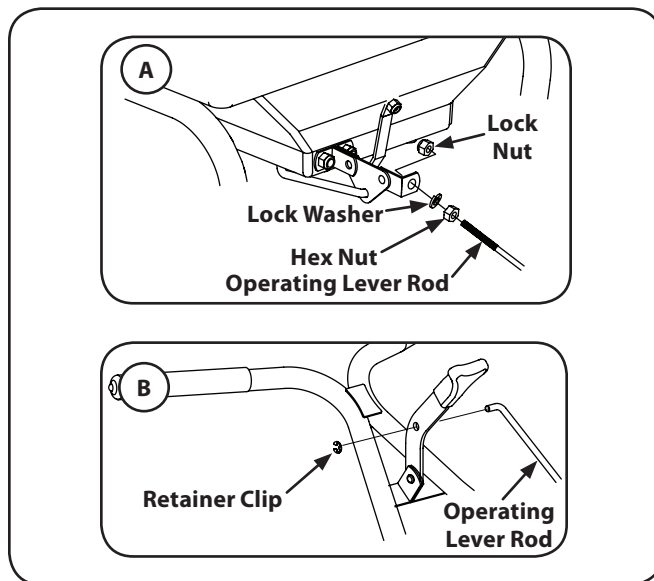

Figure 3-7
- a. First screw the $\frac{5}{16}$ hex nut on the threaded end of the operating lever rod, add the $\frac{5}{16}$ lock washer, then insert the rod through the hole in the pivot lever assembly and install the $\frac{5}{16}$ lock nut. See Fig. 3-7.
- b. Attach the operating lever rod to the On/Off lever by inserting the bent end of the rod into the top hole of the lever from left to right and install the retainer clip. See Fig. 3-7.
6. Pull the On/Off lever to the "OFF" position and move the shutoff plate assembly to the fully closed position by adjusting the $\frac{5}{16}$ hex nuts on the bottom of the operating lever rod up or down. Refer to Fig. 3-7.